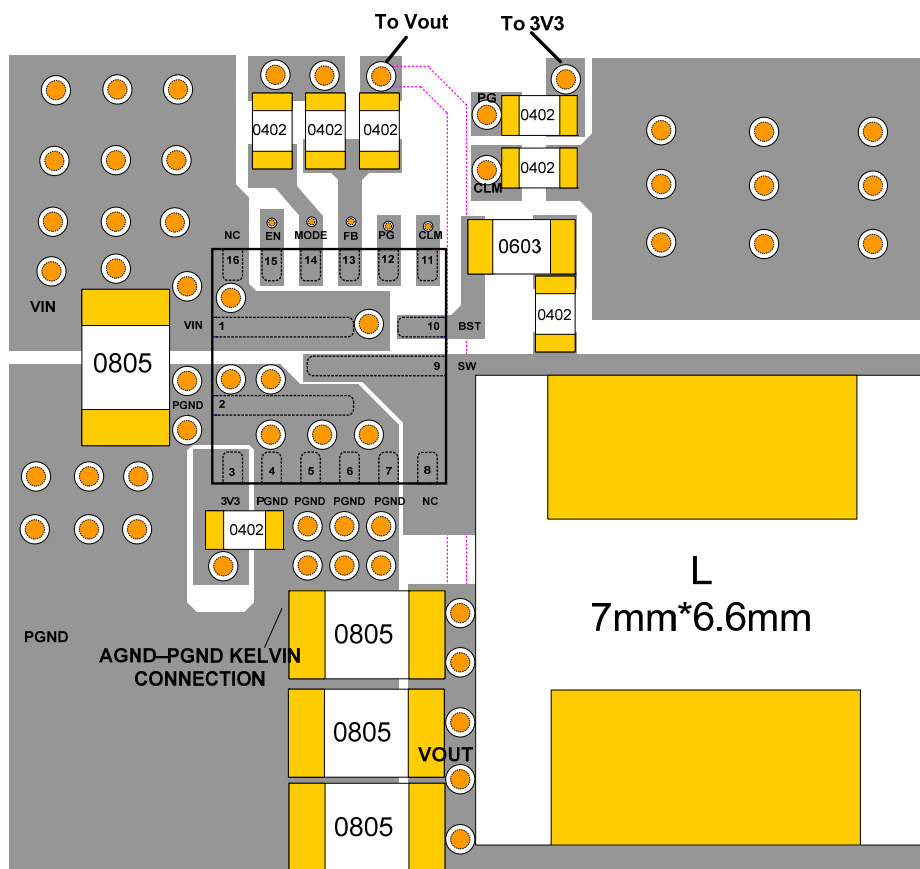

Figure 12: Recommended PCB Layout
Besides the R1 and R2 divider, the output voltage is influenced by R4 (see Figure 12). R2 should be chosen reasonably. A small value for R2 leads to considerable quiescent current loss, but a value for R2 that is too large makes FB noise sensitive. It is recommended to choose a value within 5 - 50kΩ for R2. Use a comparatively larger value for R2 when VOUT is low; use a smaller value for R2 when VOUT is high. The value of R1 then is determined with Equation (4):
Efficient PCB layout is critical for stable operation of the IC. A 4-layer layout is strongly recommended to achieve better thermal performance. For best results, refer to Figure 12 and follow the guidelines below.